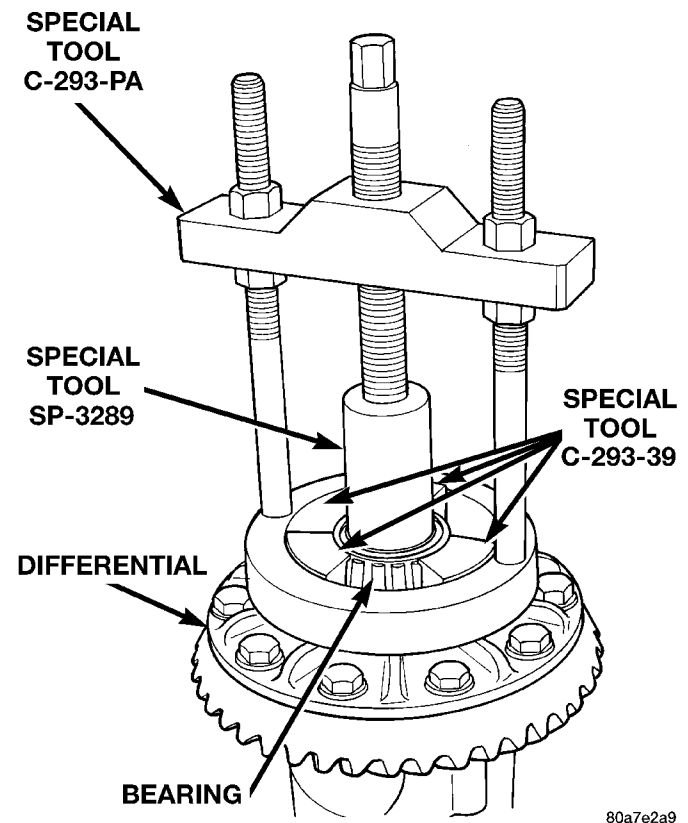

Fig. 37 Differential Bearing Removal
(1) Remove differential case from axle housing.
(2) Remove the bearings from the differential case with Puller/Press C-293-PA, C-293-39 Adapter Blocks, and Plug SP-3289 (Fig. 37).